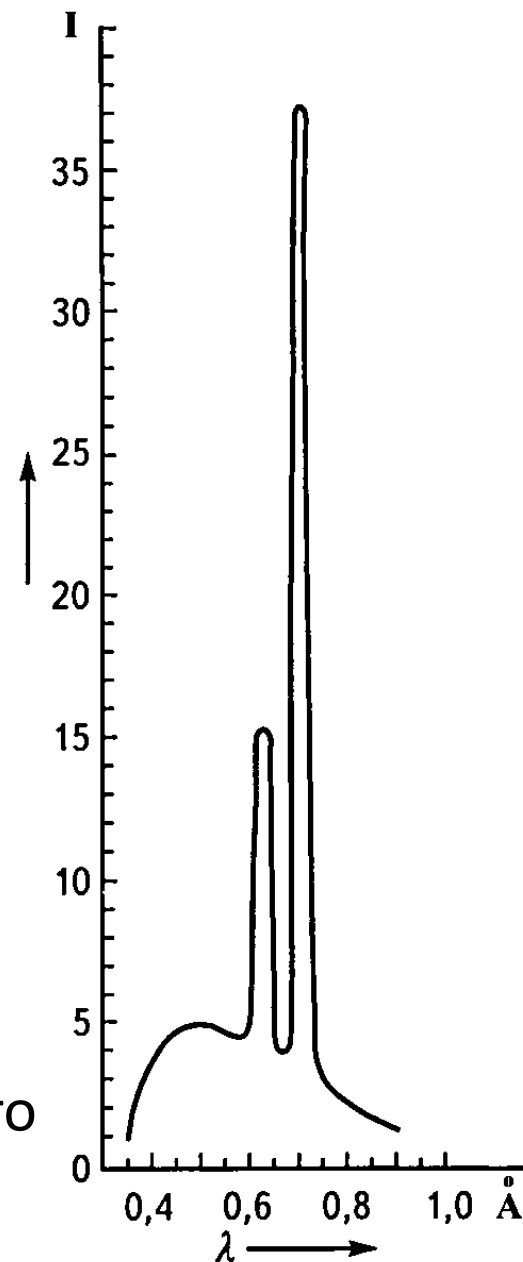

Рис. 2. Спектр X-луча, выходящего из рентгеновской трубки
**Fig. 2.** Typical SEM-images of the coating cross-section (Cu substrate of 2 mm). The results of the EDAX analysis for the point 1 and the region 2 are in the form of tables (a). The results of the EDAX analysis for the line L are in the form of curves for tungsten W and copper Cu (b).